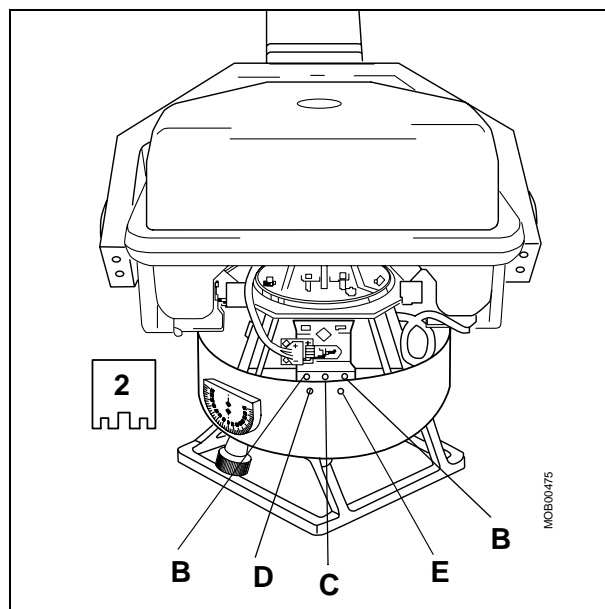

Fig. 2
- Remove the protective plate (2), covering the collimator lamp by loosening, not removing, the screws marked "B" one turn. Do not adjust screws "C", "D", or "E" (Fig. 2).